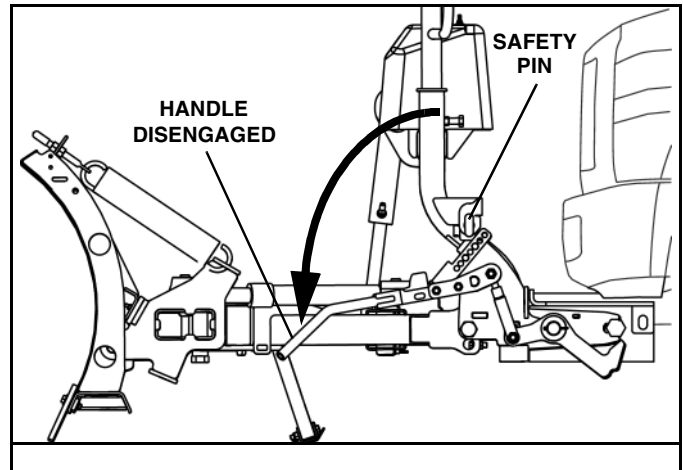

Figure 1-35
7. Pull safety pin on engagement handle to release and lower handle to disengage plow from truck. (See Figure 1-35).